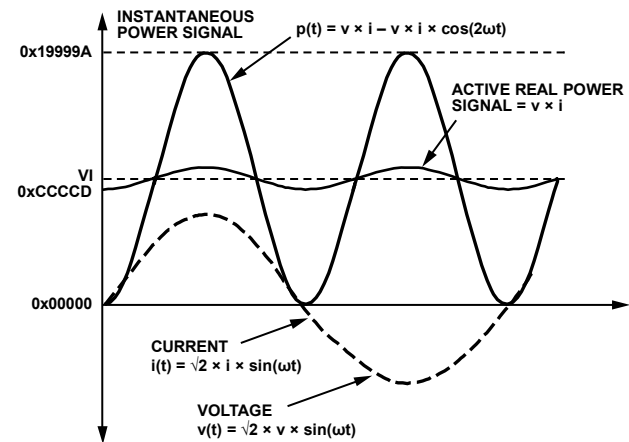

Figure 49. Active Power Calculation
Note that the active power is equal to the dc component of the instantaneous power signal  $p(t)$  in Equation 9, that is,  $VI$ . This is the relationship used to calculate active power in the ADE7518. The instantaneous power signal  $p(t)$  is generated by multiplying the current and voltage signals. The dc component of the instantaneous power signal is then extracted by LPF2 (low-pass filter) to obtain the active power information. This process is illustrated in Figure 49.
The ADE7518 also incorporates an active power offset register (WATTOS[15:0]). It is a signed, twos complement, 16-bit register that can be used to remove offsets in the active power calculation (see Figure 49). An offset can exist in the power calculation due to crosstalk between channels on the PCB or in the IC itself. The offset calibration allows the contents of the active power register to be maintained at 0 when no power is being consumed.
As mentioned previously, the discrete time sample period (T) for the accumulation register is 1.22  $\mu$ s (5/MCLK). With full-scale sinusoidal signals on the analog inputs and the WGAIN register set to 0x000, the average word value from each LPF2 is 0xCCCCD (see Figure 49). The maximum positive value that can be stored in the internal 49-bit register is  $2^{48}$  (or 0xFFFF,FFFF,FFFF) before it overflows. The integration time under these conditions when WDIV = 0 is calculated in the following equation: